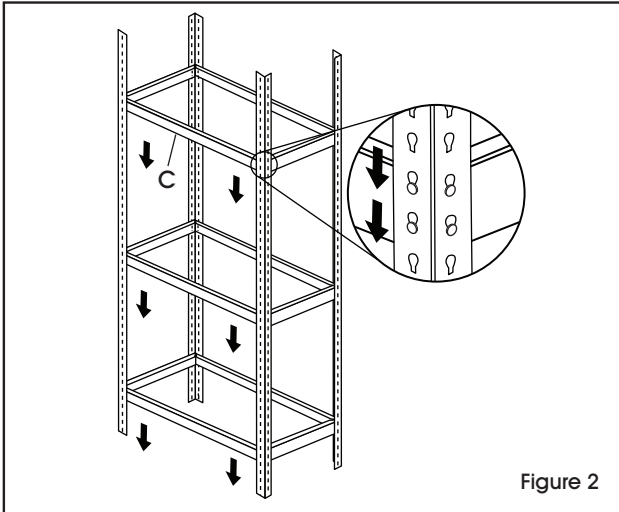

Figure 2
3. Connect the two upright post assemblies by inserting front/back supports (C) at the same level as the side supports. (See Figure 2)